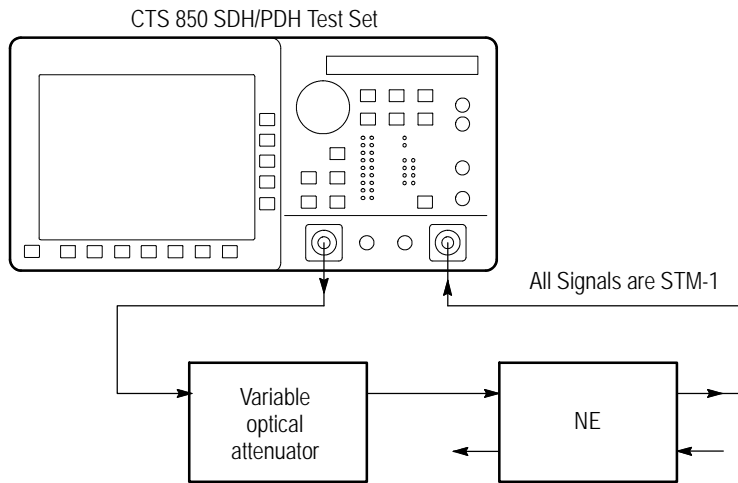

Figure 3 9: Setup to Check 1 dB Power Penalty Jitter Tolerance
1. Connect the CTS850 to the network element as shown in Figure 3 9.